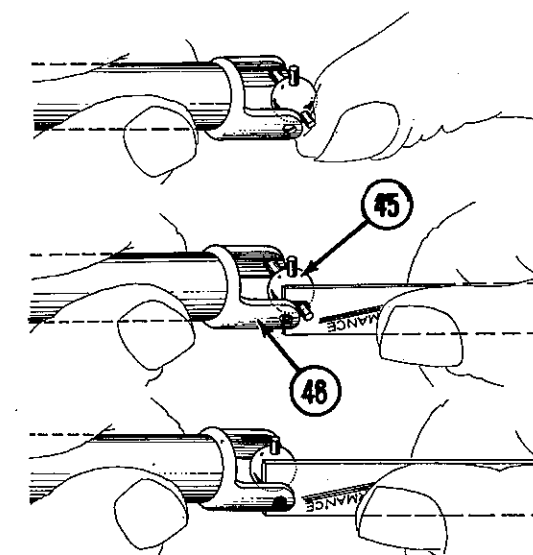

FIG. 19
30. Wedge one end of 3/32" x 1/2" spirol pin (44) in universal pivot joint (45) into female drive shaft (46) U-joint. Fig. 19.
31. Using rounded end of TEAM LOSI wrench supplied with kit, pry opposite end of 3/32" x 1/2" spirol pin (44) into other side of female drive shaft (46) U-joint. Fig. 19.
32. Using remaining pins in universal pivot joint (45), repeat steps 30 and 31 to secure the same universal pivot joint (45) to right hand U-joint out-drive (35). Fig. 19.